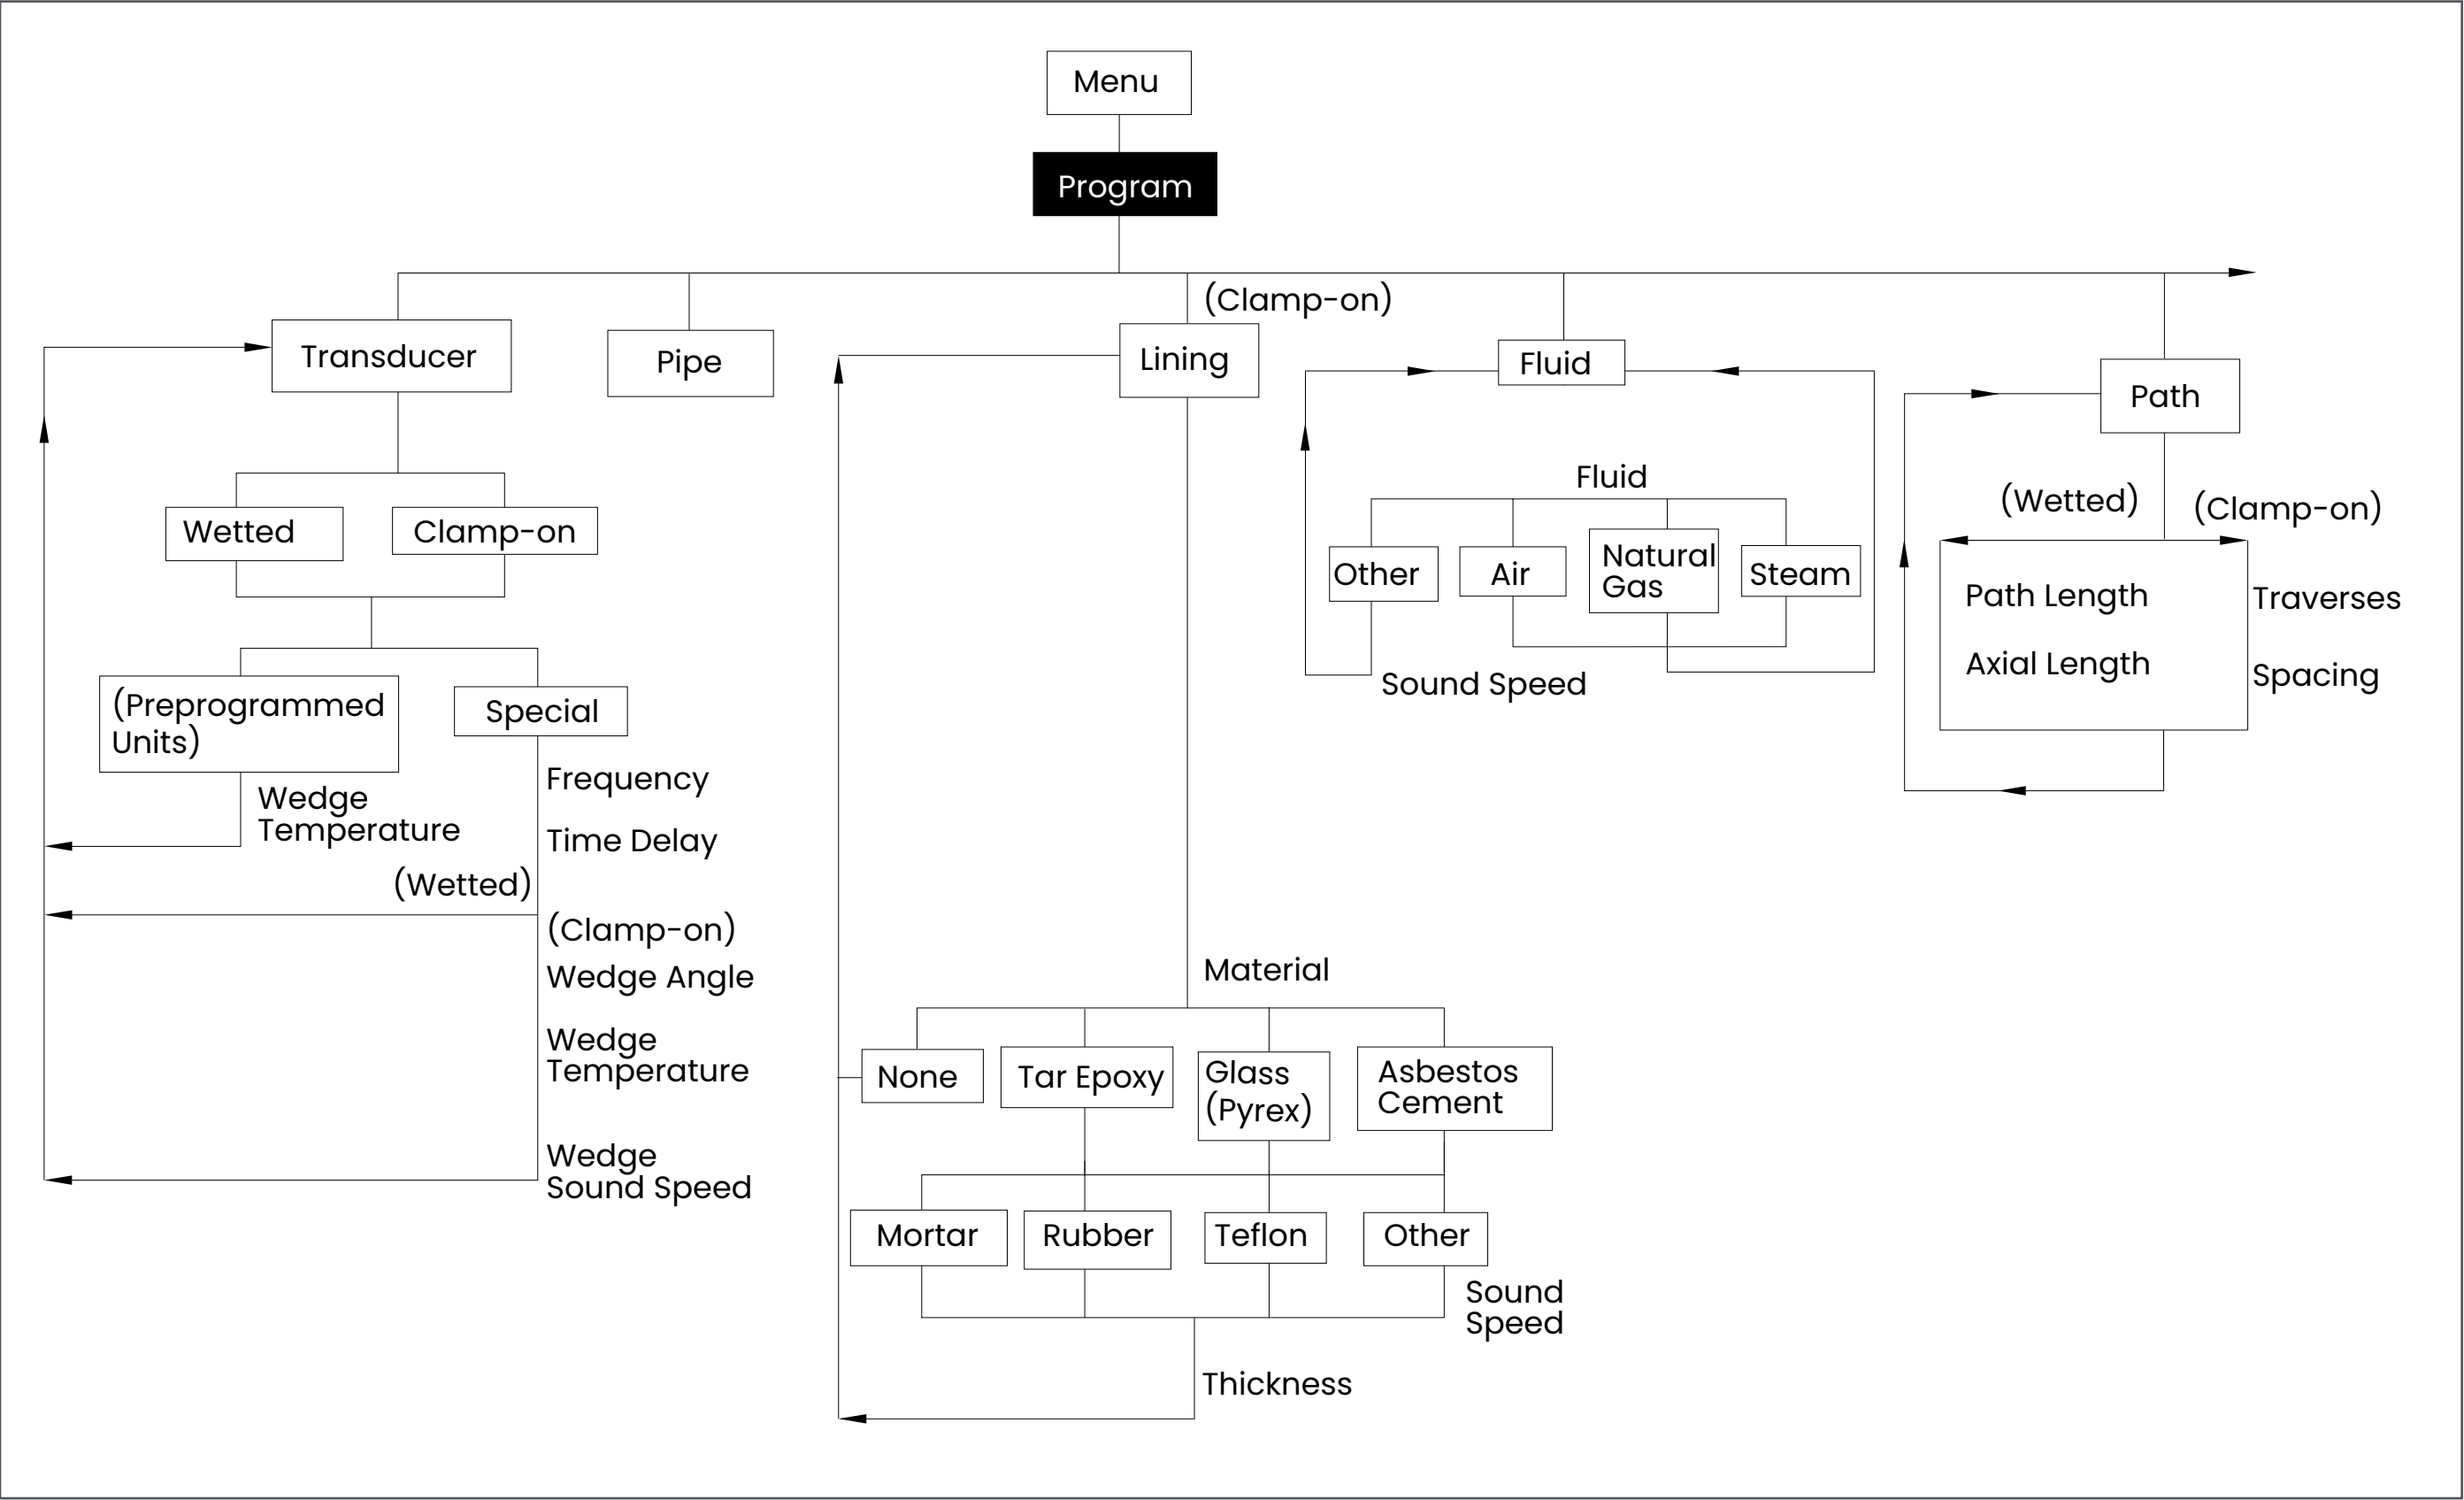

Figure 164: The Program Menu: Transducer, Lining, Fluid and Path Options
- *Figure 164, "The Program Menu: Transducer, Lining, Fluid and Path Options" on page 138*